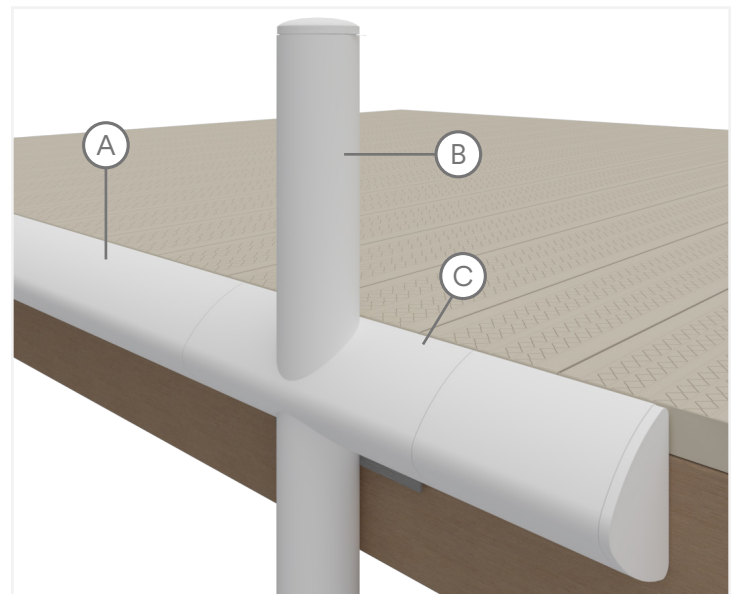

Fig. 23
3. Slide the Edge Guard over the other end of the Insert Slip Sleeve until it meets the end of the Edge Guard Connector (Fig. 23).
5. Finally, lift the Edge Guard Assembly over the covered support posts and allow the assembly to slide down into place (Fig. 23).